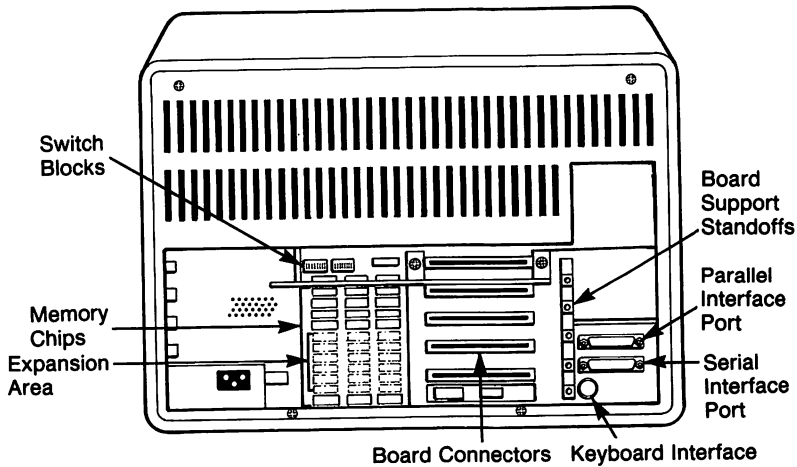

Figure 4-2 Main board
What you can see of the main processor board is shown in Figure 4-2. All expansion and/or adapter boards have been removed to unclutter the view.
1. You may have to remove installed adapter boards to get at the chip sockets. See Figure 4-2 to locate sockets.
These ports are located above the keyboard connector on the rear panel (see Figure 4-2). The parallel port is available only for use with a printer. The serial port may be used to connect a serial printer, an RS232C compatible modem for telecommunications, or any other RS232 terminal device.
If you have a parallel printer, all you have to do is plug it in the parallel port connector shown in Figure 4-2.
For a serial printer, plug it in the serial port connector, shown in figure 4-2, make sure SW2 switch settings are correct and use the NCR-DOS MODE command to enable the port for this use.